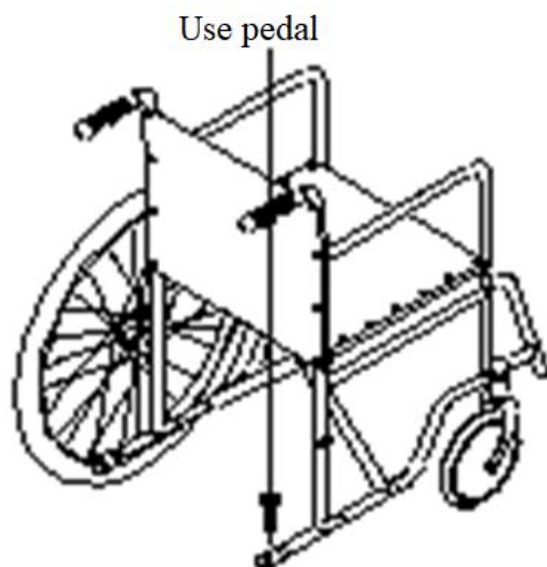

Figure 4
- There is a rear-tilt bar with a plastic sleeve at the bottom of the wheelchair. The follower steps on the tipper bar to tilt the wheelchair backwards - the front wheel first goes up the steps, then easily lifts the wheelchair with the passenger up the stairs. (See figure 4)